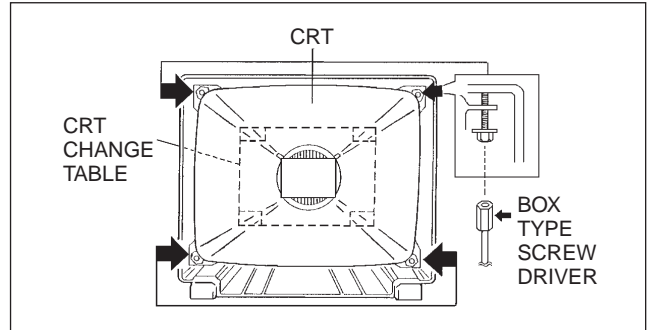

Fig.6
- (2) While keeping the surface of CRT down, mount the TV set on the CRT change table balanced will as shown in Fig. 6.
- (3) Remove 4 screws marked by arrows with a box type screwdriver as shown in Fig. 6.